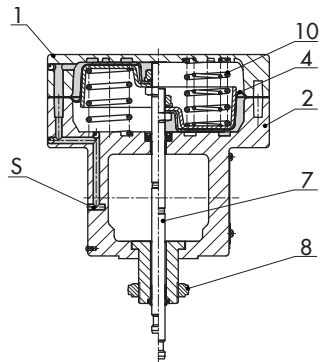

Fig. 8: Type 3277-5 for direct attachment of accessories (120 cm²)
- **Type 3277-5 · 120 cm² actuator area**, die-cast aluminum housing for direct attachment of accessories (Fig. 8), optionally with additional handwheel (Fig. 5)